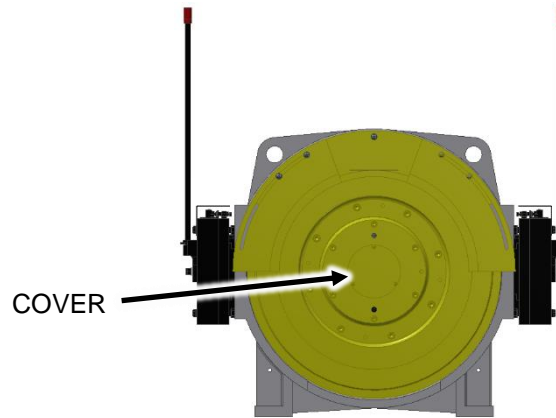

Figure 37
9. Replace the cover shown in Figure 37.